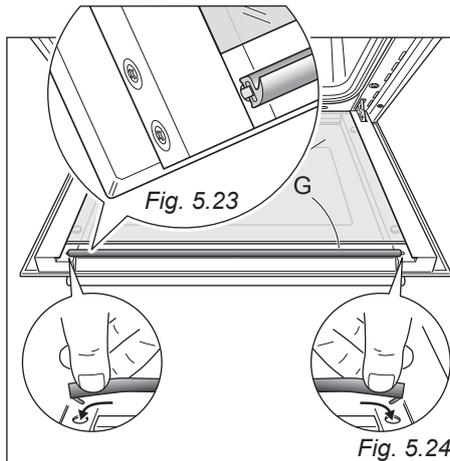

Fig. 5.24
- Reassemble the seal "G" in the correct way (fig. 5.23) by hooking the no. 2 fixing hooks in the proper holes (fig. 5.24).